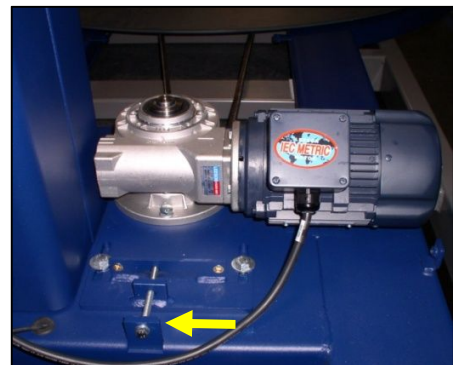

Figure 7.18
7. Use a 13 mm socket to remove the tension bolt from the turntable drive (Figure 7.18).